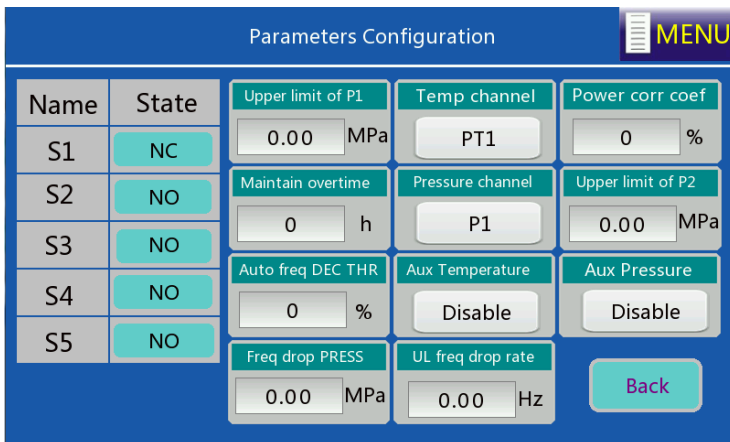

Figure 4-8 System parameter configuration interface
Step 3 Click **Next** to enter **Parameters Configuration** or click **Back** to return to system configuration. On the system configuration interface, click **System Para Config**. S1 functions as emergency-stop switch, select **NO** or **NC** based on the polarity of the emergency-stop switch, as shown in Figure 4-8.